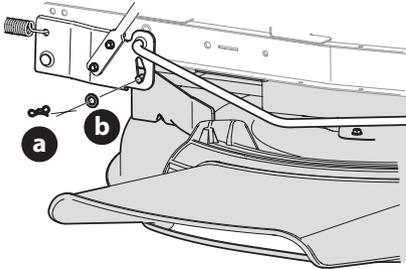

Figure 17
3. Remove the bow-tie cotter pin (a) and flat washer (b) from the deck lift assembly and retain for reinstallation later (Figure 17).